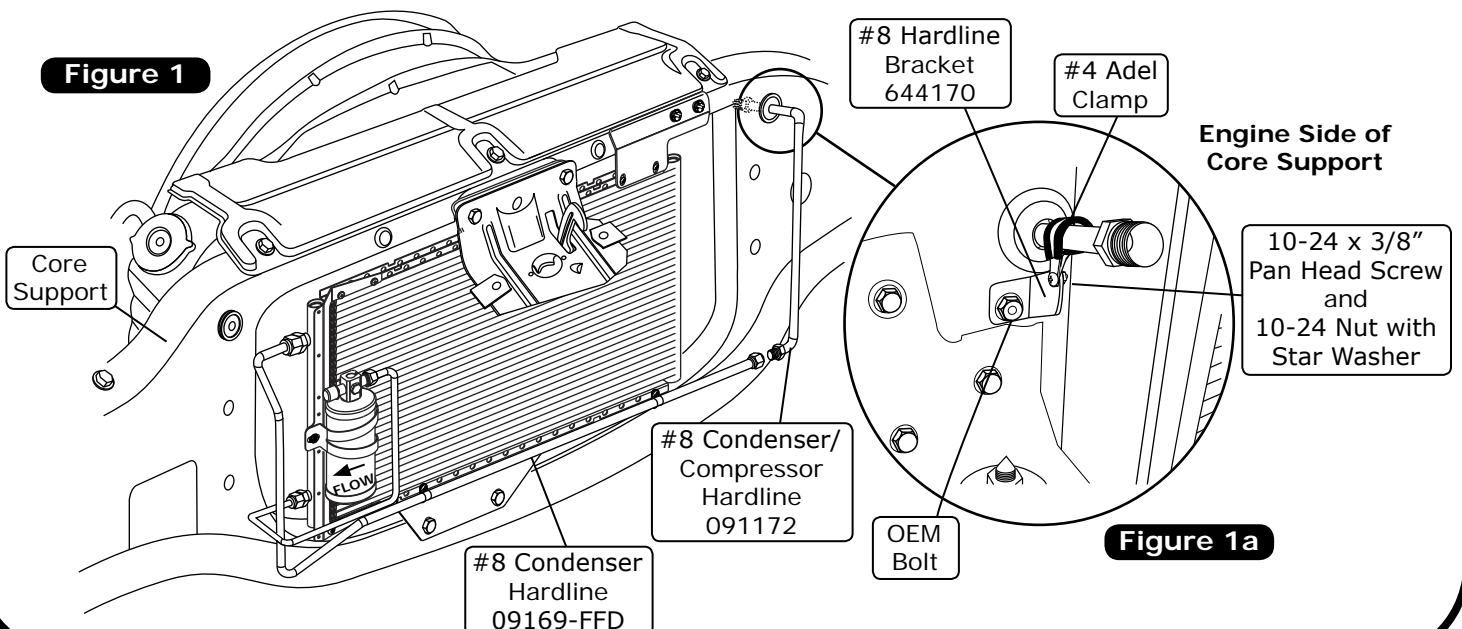

Figure 1a
2. Install the bottom mounting bracket onto the condenser using (2) 10-24 x 3/8" pan head screws and (2) 10-24 nuts with star washers (See Figure 1a, below). **NOTE: The bracket mounts to the outside of the flange through the 5th & 13th holes from the right side of the condenser (Rear View).**
3. Install the #8 hardline bracket onto the core support using the OEM bolt, and secure it to the #8 condenser/compressor hardline with a #4 Adel clamp (See Figure 1a, below).